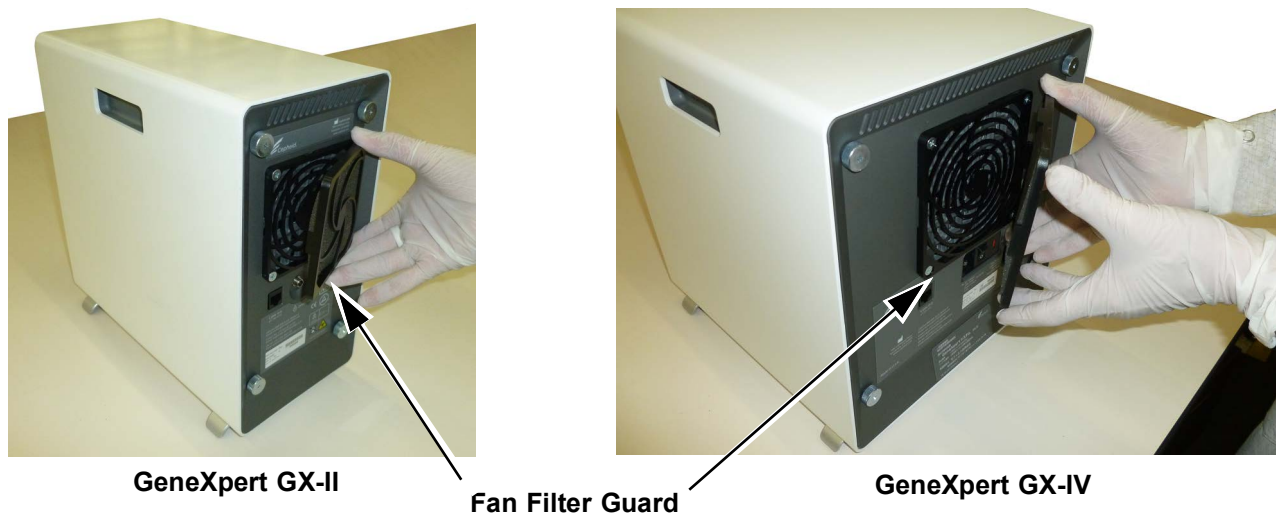

Figure 9-9. Removing Fan Filter Guard
4. Gently take the fan filter guard off by unsnapping the guard from the fan housing (see Figure 9-9) and place it aside for the remainder of the procedure for filter removal and cleaning.